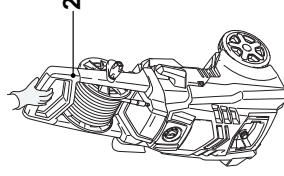

Fig. 43
3. Always transport the product by its handle (2) (Fig. 43).